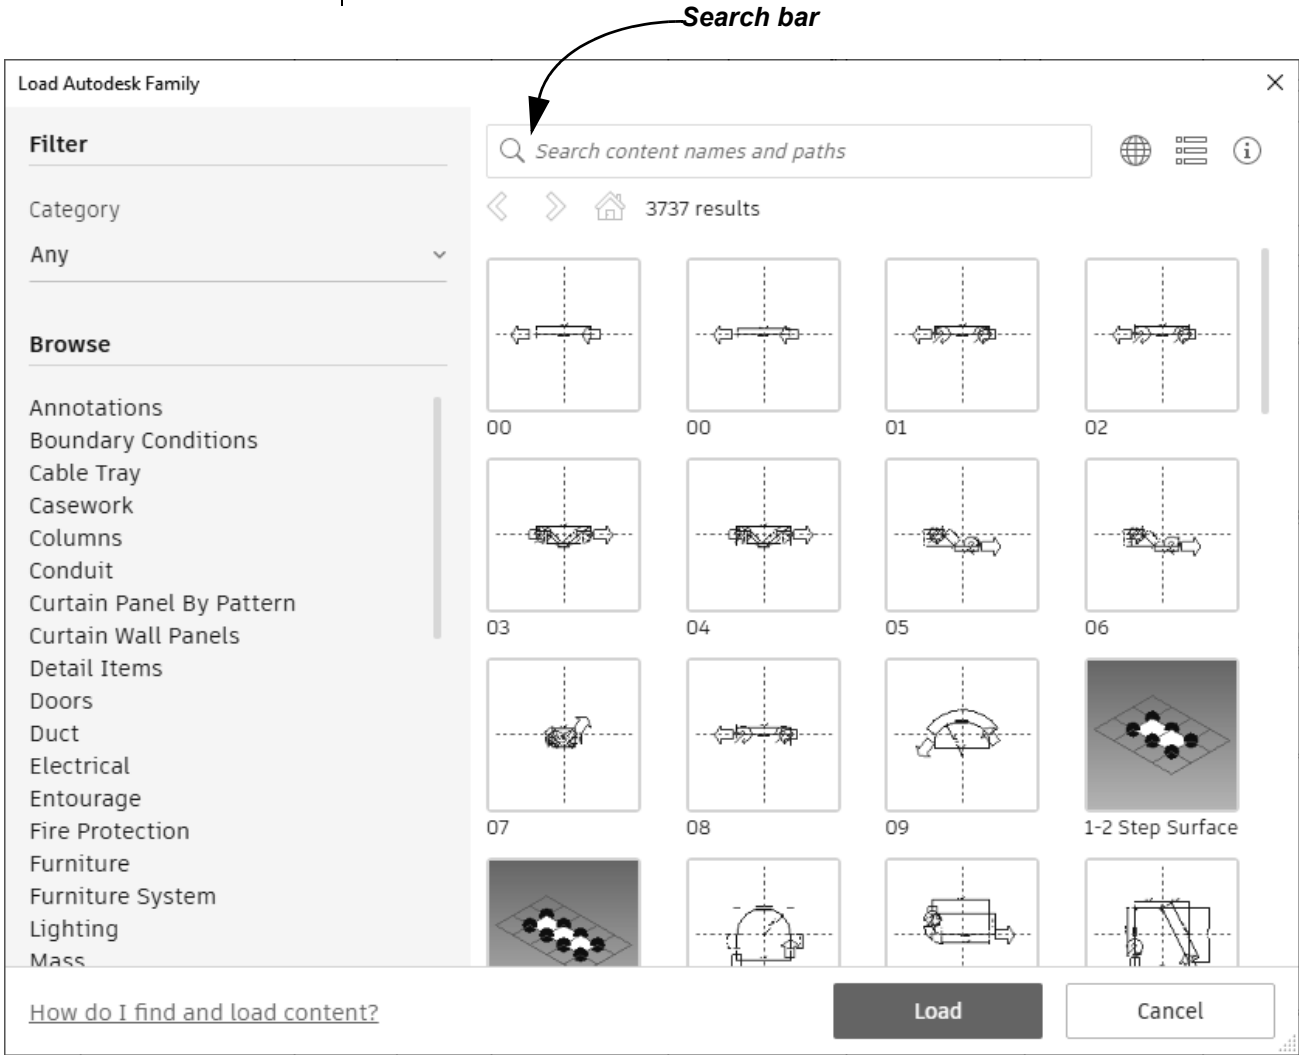

Figure 2–23
2. In the Load Autodesk Family dialog box, filter your search by typing in what kind of family you are looking for, or click on a category in the Browse section, as shown in Figure 2–23.